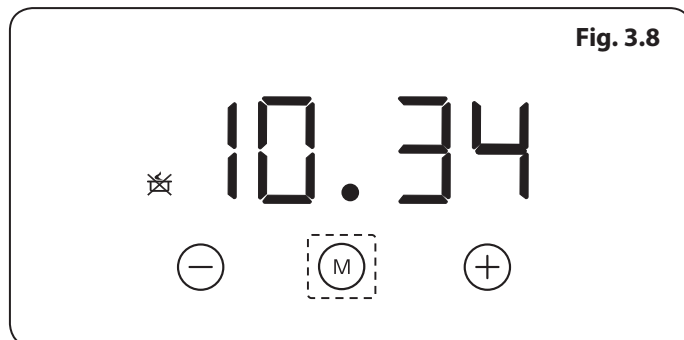

Fig. 3.8
- Touch 'M' until the **end of cooking time** indicator flashes (**Fig. 3.8**).